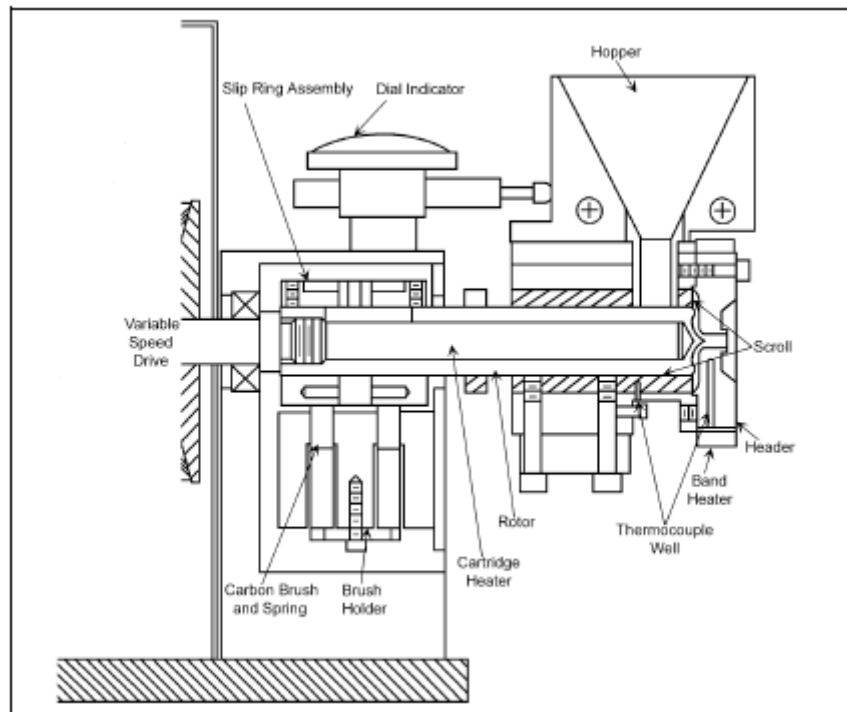

Figure 3
- Header:** Stationary component which includes the standard header plus the 1/8 inch orifice (See Figure 3). The orifice allows easy replacement. Dynisco offers a selection of three optional orifices (1/32", 1/16", & 3/32" – orifice diameter) and four optional headers (ribbon, spinneret or multi-strand, tube, and wiring coating.)
- Scroll:** Stationary tube between the case and rotor that guides the polymer towards the gap area in response to the rotor's rotation (See Figure 3.)